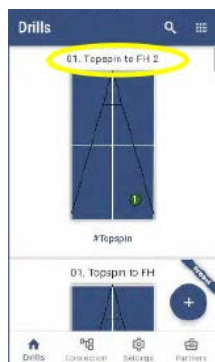

Figure 3-33
7. Scroll to the top of the list, and you will see a new Drill called “01. Topspin to FH 2”. This drill will be an exact clone of the Drill named “01. Topspin to FH”. (Figure 3-33)